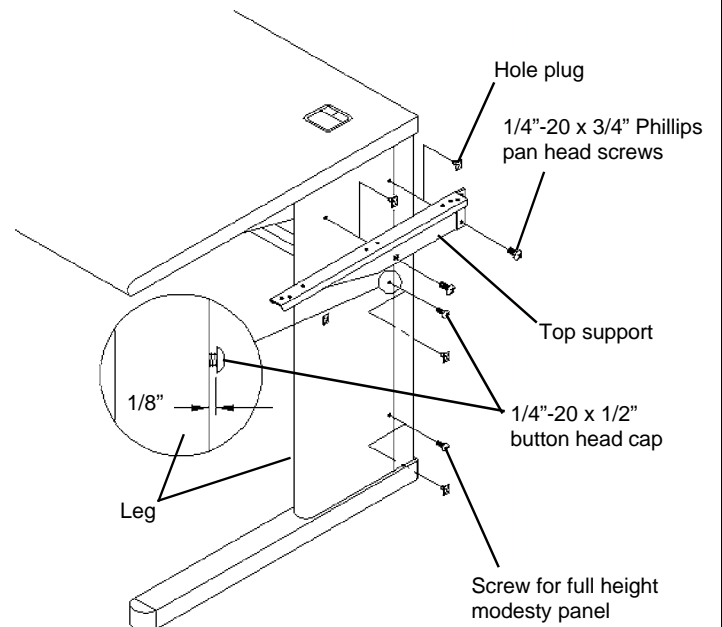

Figure 1
1. Remove three plastic hole plugs from one leg of each workstation to be connected. Assemble a **Top Support** to each workstation leg with two 1/4"-20 x 3/4" Phillips pan head machine screws as shown in **Figure 1**.
2. Install a 1/4"-20 x 1/2" button head cap screw into the lower rear section of each leg. Leave this screw extending approximately 1/8" from the face of the leg. See **Figure 1** inset.
NOTE: If a full height Modesty Panel is being installed, it will be necessary to install an additional screw at the bottom of the leg. See **Figure 1**.